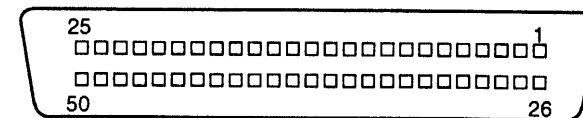

Figure 1-3. SCSI Connector Pin Assignment
- Connector: Two 50-pin connectors (see figure1-3.)